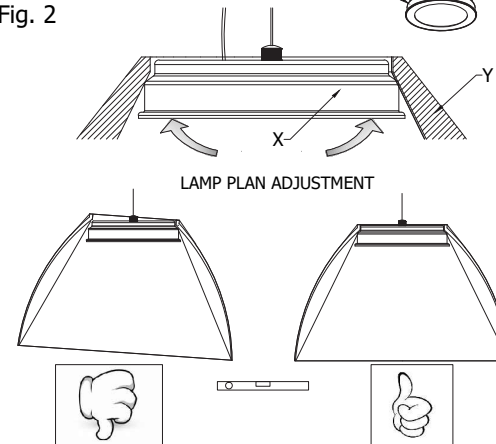

Fig. 2
- Place the canopy in the ceiling. Screw with care the particular (A), the block cable (G).(FIG.2)
- Screw the safety screw (K) (Fig.2).